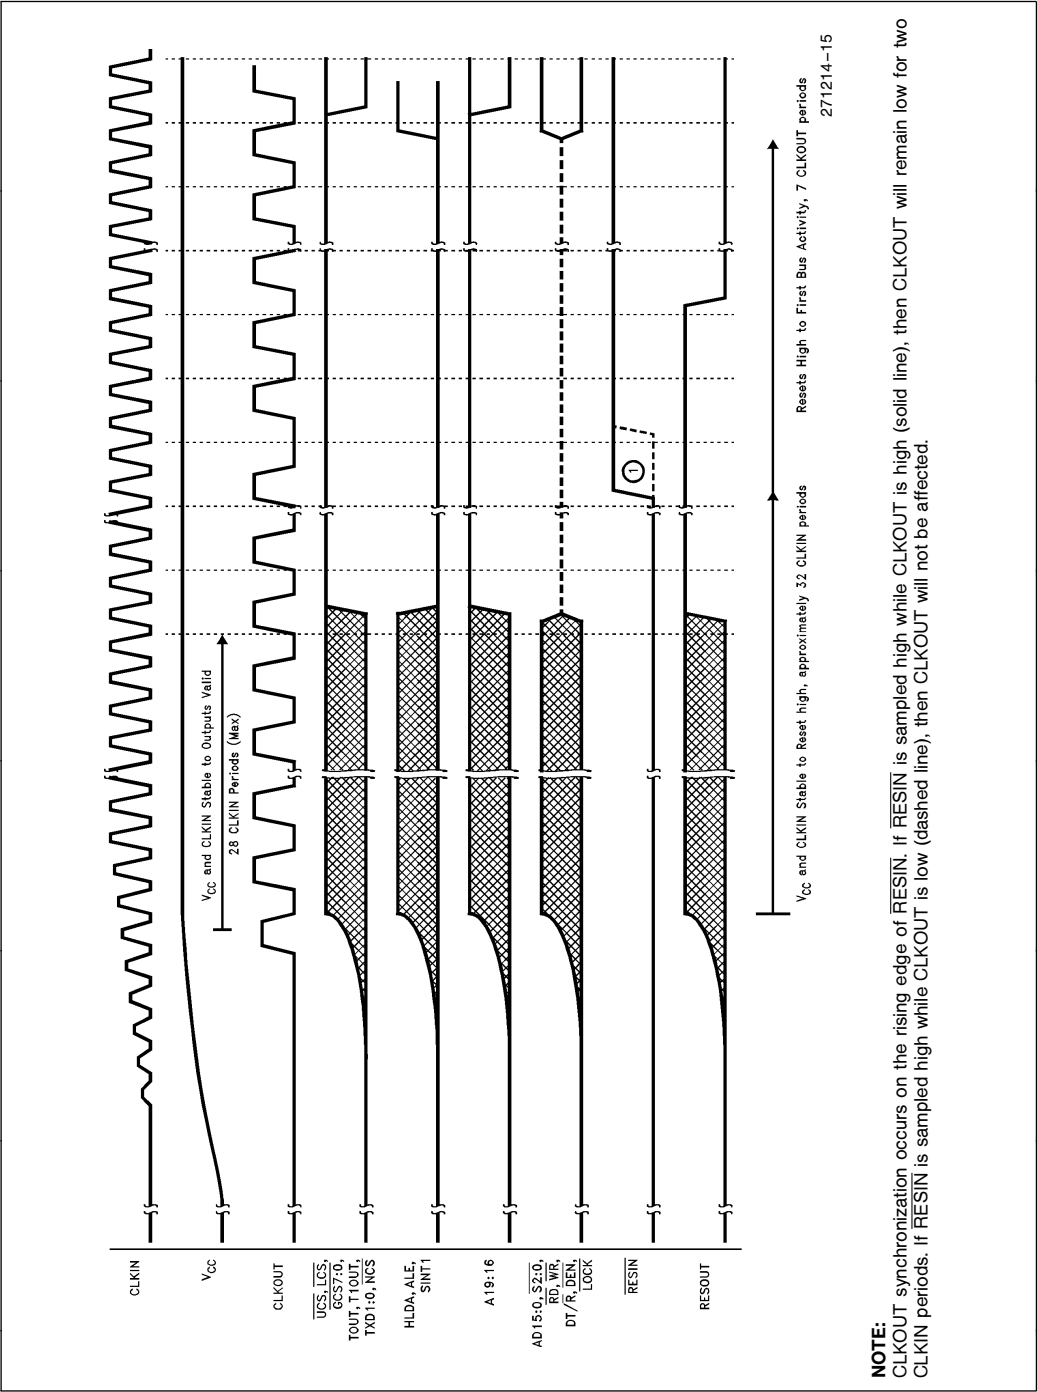

Figure 17
5. Specified for a 50 pF load, see Figure 17 for rise and fall times outside 50 pF.
6. See Figure 17 for rise and fall times.
Figure 17 shows the correct reset sequence when first applying power to the M80C186EB. An external clock connected to CLKIN must not exceed the  $V_{CC}$  threshold being applied to the M80C186EB. This is normally not a problem if the clock driver is supplied with the same  $V_{CC}$  that supplies the M80C186EB. When attaching a crystal to the device,  $\overline{\text{RESIN}}$  must remain active until both  $V_{CC}$  and CLKOUT are stable (the length of time is application specific and depends on the startup characteristics of the crystal circuit). The  $\overline{\text{RESIN}}$  pin is designed to operate correctly using an RC reset circuit, but the designer